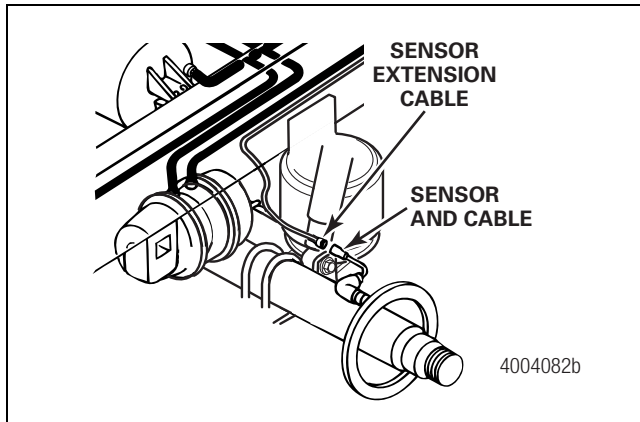

Figure 11
2. Connect the sensor and cables on the prepped axles to the sensor extension cables. Verify that each connection is secure. Figure 11.